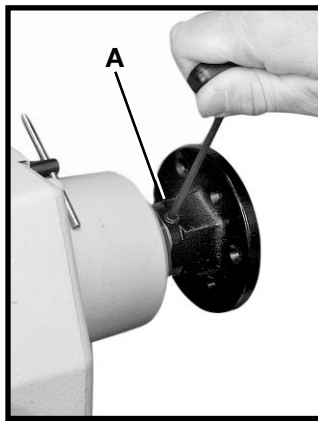
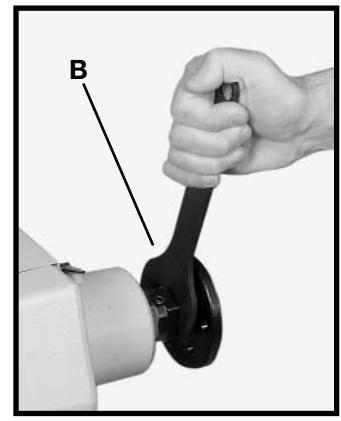

Fig. 23
Fig. 23B
6. The REVERSE (REV) button is used FOR SANDING PURPOSES ONLY. **NOTE:** When using the faceplate, be certain that the faceplate locking screw (A) Fig. 23 is tight. **NOTE:** To remove faceplate, loosen the set screw (A) Fig. 23 two full turns. Use the supplied wrench (B) Fig. 23B to loosen the faceplate, then remove the face plate from the spindle.